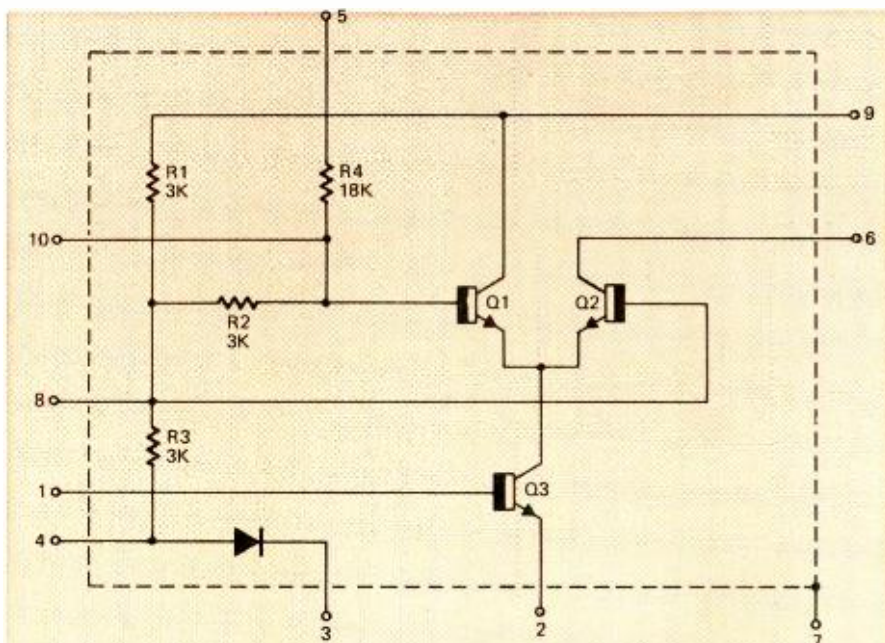

FIG. 2—COMPLETE CIRCUIT of Motorola's HEP 590 IC. Tests between various terminals indicate the condition of the resistors and the semiconductors
**Procedure:** Set meter controls to measure low-power ohms. In the example in Fig. 2, measure resistance values between terminals 4-9, 4-10, and 5-10.
**Procedure:** Set meter controls to measure low-power ohms. Referring to Fig. 2, measure the resistances between terminals 6-8, 1-2, 1-8 and 1-9. The  $R \times 1$ -MEG range provides the most sensitive test.
**Procedure:** Set meter controls to measure low-power ohms. Referring to Fig. 2, measure the resistance value between terminals 3-4. The  $R \times 1$ -MEG range pro-
**Procedure:** Set meter controls to measure low-power ohms. Referring to Fig. 2, measure the resistance value between terminal 7 and any other terminal of the IC. The  $R \times 1$ -MEG range provides the most sensitive test.
**Procedure:** Set meter controls to measure high-power ohms, and operate on the  $R \times 100$  range. Referring to Fig. 2, measure the resistance between terminals 2 and 1. Then, reverse the test leads and measure the resistance between terminals 2 and 1 again. Repeat the pair of measurements for terminals 6 and 8.
**Note:** The diode in Fig. 2 can be tested similarly for front-to-back ratio between terminals 3 and 4. Test 5 yields the front-to-back ratio for the collector junction of Q2 and the emitter junction of Q3. No data has been obtained concerning the front-to-back ratio of the remaining junctions.
**Procedure:** Set meter controls to measure high-power ohms, and operate on a suitable resistance range. In this example, we will employ the  $R \times 100$  range. Referring to Fig. 2, measure the resistance between terminals 9 and 10. Then, reverse the test leads and measure the resistance again.
**Procedure:** Set meter controls to measure high-power ohms, and operate on a suitable resistance range. In this example, we will use the  $R \times 100$  range and check the front-to-back ratio of Q2. Referring to Fig. 2, measure the resistance between terminals 4 and 6. Then, reverse the test leads and measure the resistance between terminals 4 and 6 again.
FIG. 2—PHASE AND AMPLITUDE relationships of four decoded signals in SQ system. Note that each recovered signal contains elements of three of the four discrete signals.
duction of the  $L_f$  and  $R_f$  composite signals with *no* decoding, full left-front to right-front separation is maintained in two-channel playback as well, since the  $L_f$  and  $R_f$  signals are not "cross-blended" in the encoding process either. The vector diagrams shown in Fig. 2 again display the signal content of each of the four output channels in a simple SQ matrix decoder and illustrate amplitude as well as phase relationships of the *three* signal components which are heard from each loudspeaker.